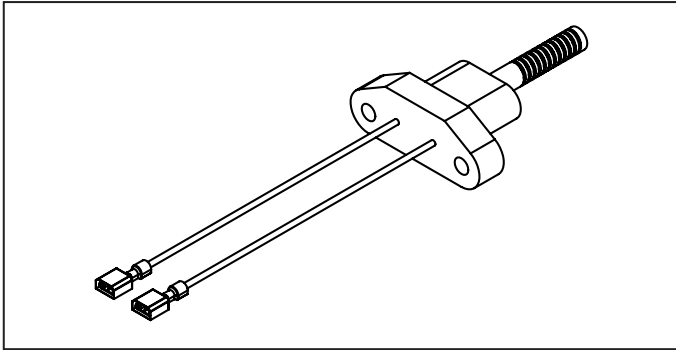
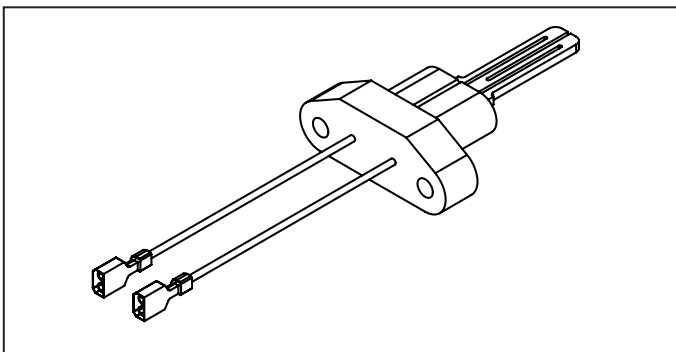

Figure 37. Spiral Igniter
Figure 38. Flat Surface Igniter
5. **Igniter** - The hot surface igniter is a crystalline element which becomes very hot when electrical power is applied to it. The hot surface igniter directly ignites the air/gas mixture in the combustion chamber. LXI heaters from Revision K forward use a spiral igniter (see Figure 37). Previous versions use a flat surface igniter (see Figure 38).